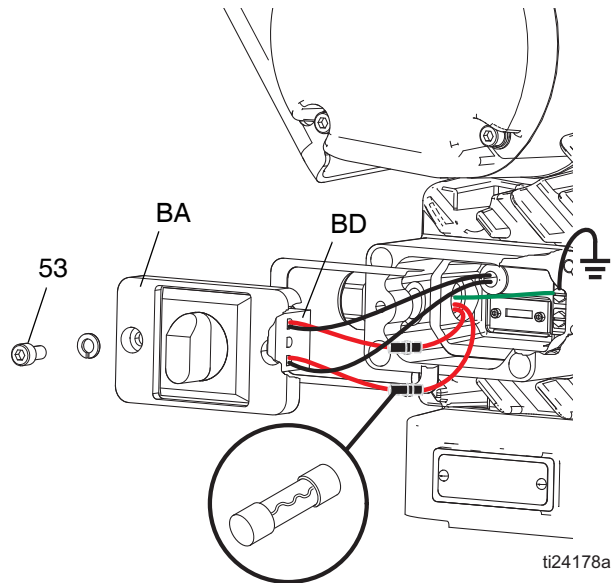

FIG. 19: Fuse Location
3. Remove two screws (53) and remove the junction box cover (BA) from the driver to gain access to the disconnect block (BD). See FIG. 19.
13. Gently tuck the wires back into the junction box (BC) around the disconnect block (BD) and reinstall the junction box cover (BA). Replace the two screws (53) and washers, then tighten. See FIG. 19, page 24.